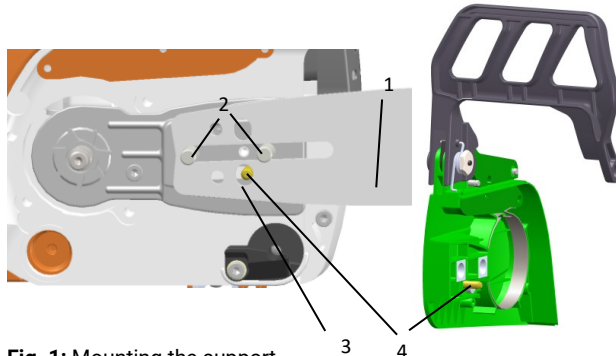

Fig. 1: Mounting the support
- > Place the guide bar (1 - Fig.1) between the screws (2 - Fig.1) in the same way as a normal chainsaw bar.
- > The hole (**3** - Fig.1) in the support must be located at the chain tensioner driver. Depending on the type of chainsaw, this is mounted on the motor side or in the cover (**4** - Fig.1).